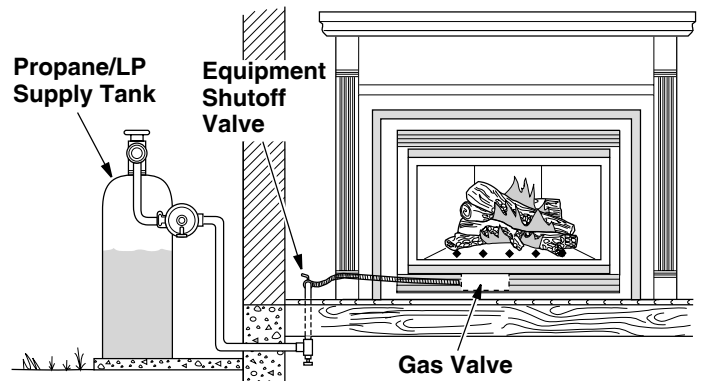
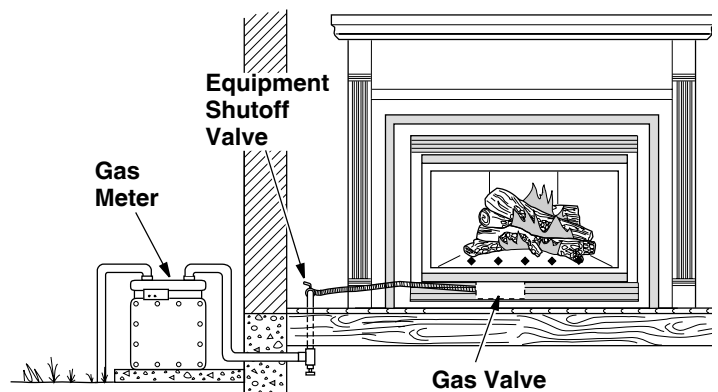

Figure 51 - Checking Gas Joints for Propane/LP Gas Fireplace
Figure 52 - Checking Gas Joints for Natural Gas Fireplace
4. Check all joints from propane/LP supply tank or gas meter to equipment shutoff valve (see **Figure 51** for propane/LP or **Figure 52** for natural gas). Apply noncorrosive leak detection fluid to all joints. Bubbles forming show a leak. Correct all leaks at once.
3. Check all joints from equipment shutoff valve to gas valve (see **Figure 51** for propane/LP or **Figure 52** for natural gas). Apply noncorrosive leak detection fluid to all joints. Bubbles formed show a leak. Correct all leaks at once.